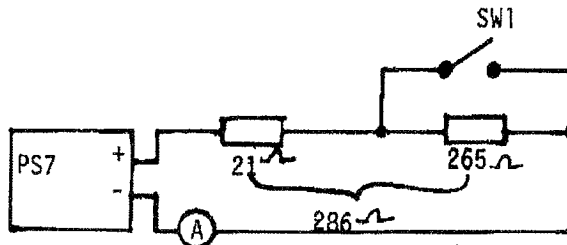

FIG. 1
It will be necessary to step from one resistance to another as shown in Fig. 1.
9.5.1 Connect the power load of Fig. 1 to the PS7 output terminals on TB1 through a 0-10 A DC meter.